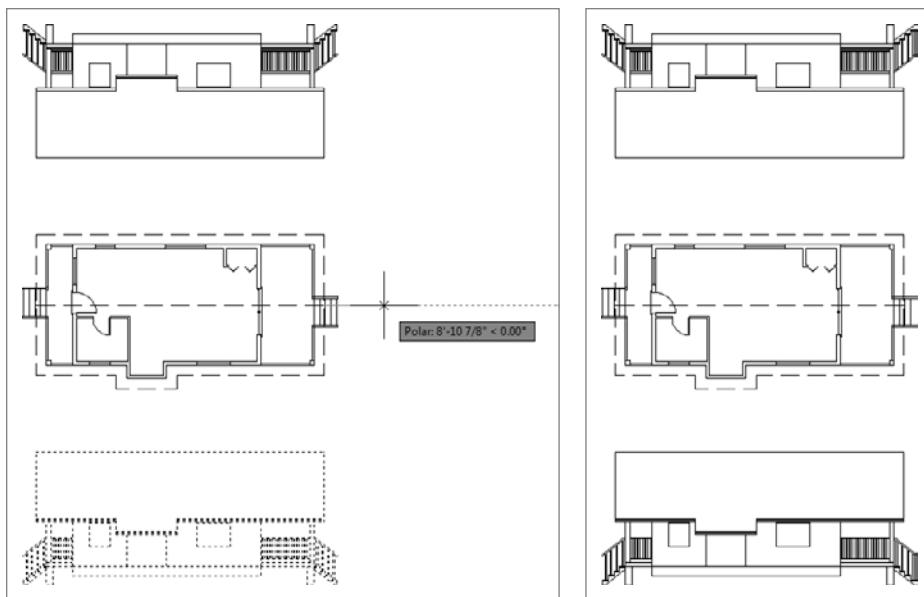

FIGURE 10.35 Specifying a mirror line (left) and the result (right)
5. With Polar Tracking on, hold the crosshair cursor directly to the right of the point you just picked (see the top of Figure 10.35) and pick another point. At the Erase source objects? [Yes/No]<N>: prompt, press ↵ to accept the default of No.
The first side elevation is mirrored to the opposite side of the cabin (see the bottom of Figure 10.35). You can now make the necessary changes to the new elevation so that it correctly describes the south elevation of the cabin. However, you might find it easier to work if the view is right side up.